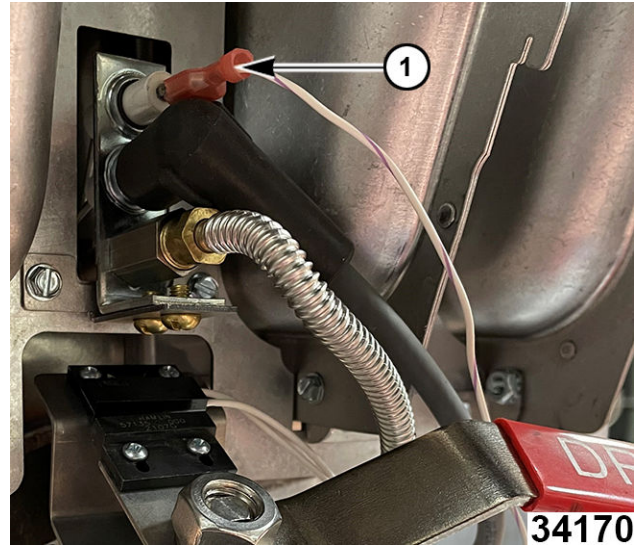

Fig. 133
1. Access flame sense wire at pilot assembly (1, Fig. 133).